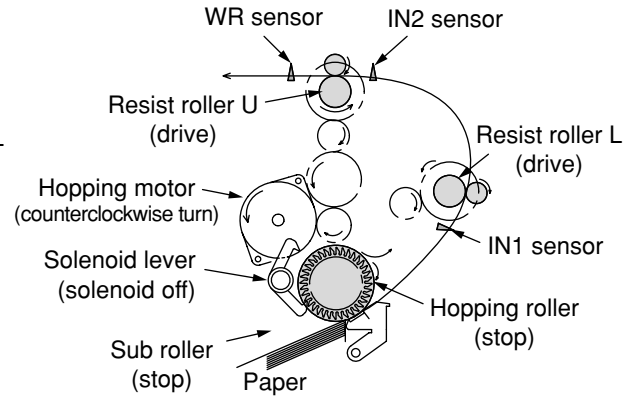

Figure 2-2
3. As shown in Figure 2-2, turn the solenoid off and transport the paper by the resist roller L. (When the solenoid is off, the resist roller operates.)